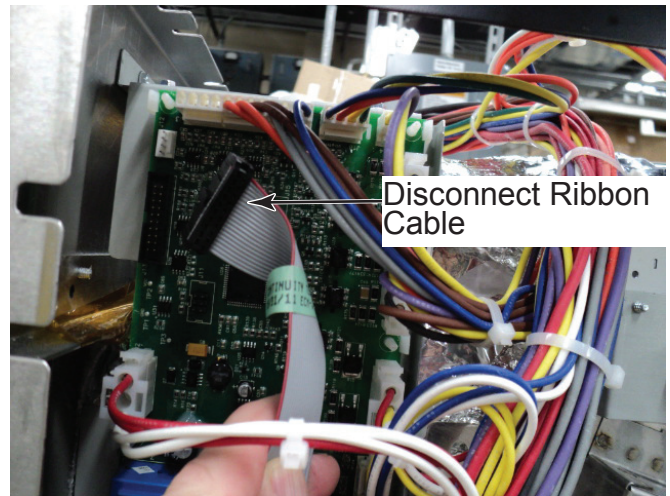

Figure 2
3. Disconnect the ribbon cable from main board (Figure 2).